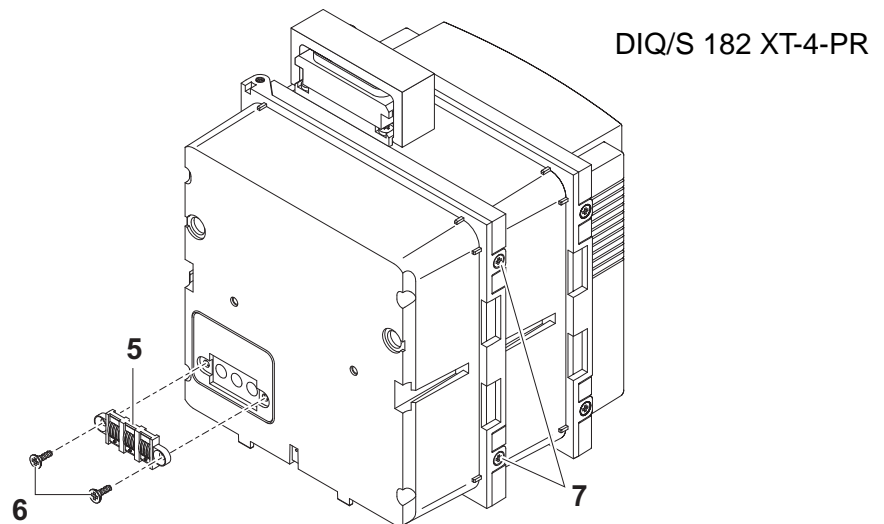

Fig. 3-3 Mounting the contact base (variant 1)
| 4 | Fix the contact base (pos. 5 in Fig. 3-3) onto the DIQ/S 182-XT-4-MOD with the two plastic self-tapping screws (pos. 6). |
| 5 | Remove the two countersunk screws (pos. 7 in Fig. 3-3) of the DIQ/S 182-XT-4-MOD and swing open the lid. |